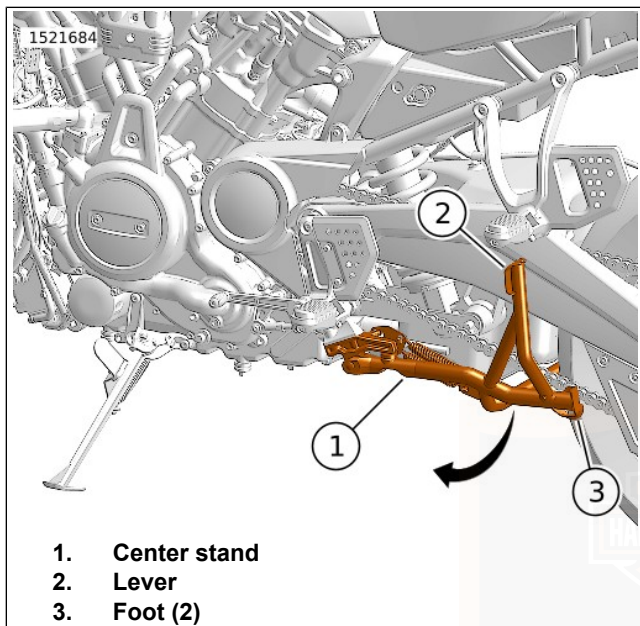

Figure 11. Center Stand
4. See Figure 11. Press down on lever (2) with foot.
5. Ensure feet (3) are both on ground.
6. While pressing down on lever (2) rock motorcycle to the rear lifting motorcycle onto center stand (1).